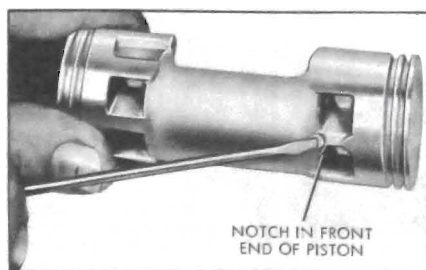

Figure 11-123—Piston Assembly
8. Remove piston rings, balls and shoe discs. Discard the shoe discs. Examine piston balls, if satisfactory for reuse, place in parts tray with proper end of piston. The front end of piston has identifying notch in casting web. See Figure 11-123.